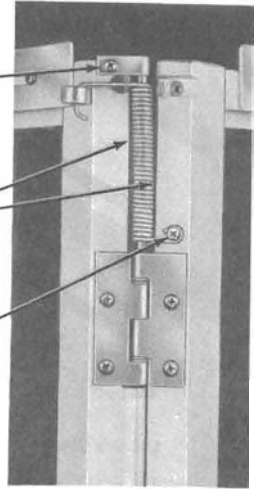
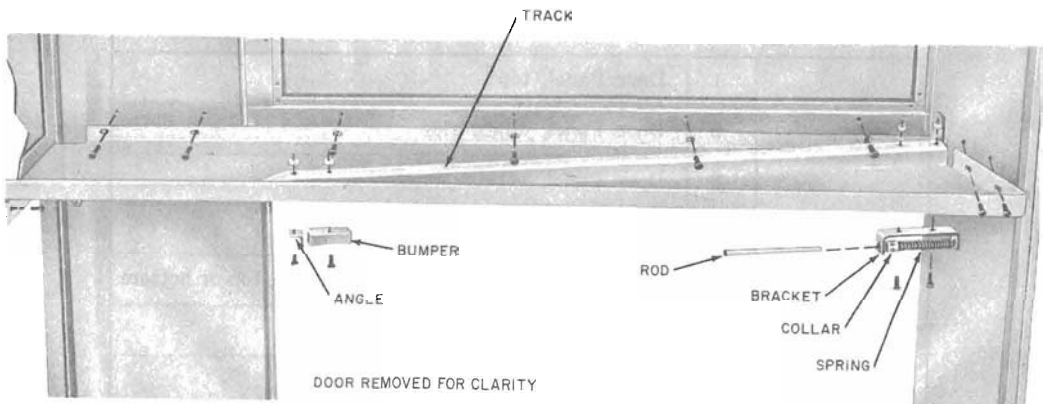

Fig. 22—Installation of Top Hinge Assembly
Fig. 23—Installation of Door Track
- (1) Check hinge wear. Clearance between hinge barrels should not exceed 1/16-inch; gauge by eye. Replace worn hinges.
- (2) Replace defective spring of the top hinge assembly only if the assembly is the latest type (Fig. 22). Replace all earlier type assemblies with the new top hinge assembly.
- (3) If door hinges squeak, lubricate at each joint between the barrels with KS-14774, L2G lubricating grease or equivalent; a KS-14796 oiler may be used.
- 4.17** When worn door track is interfering with operation of door, replace track, as shown in Fig. 23.